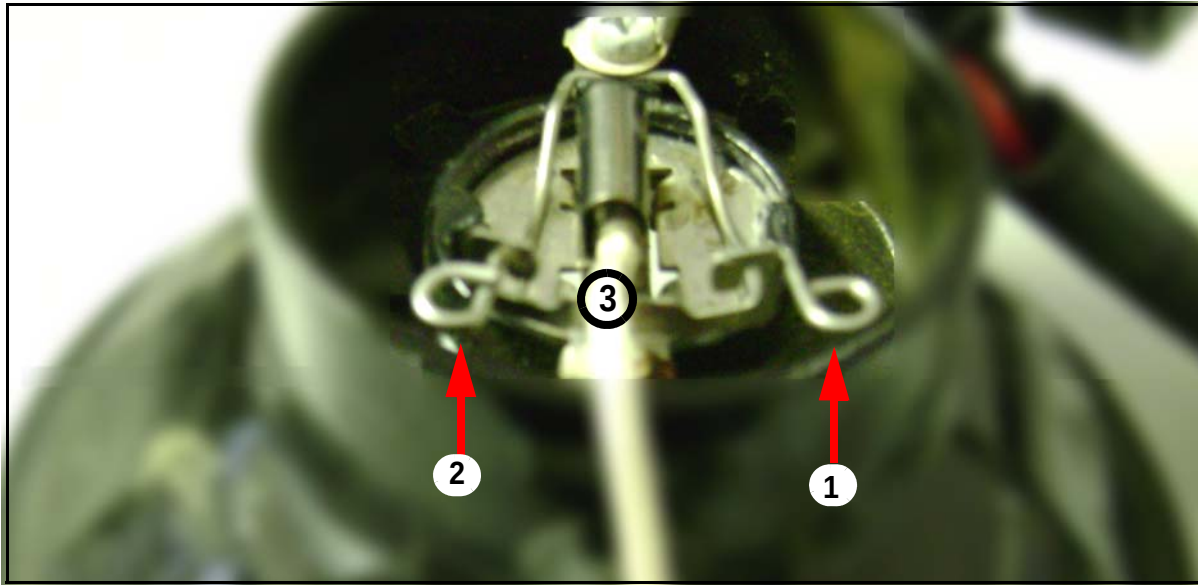

Figure 3. Fog light assembly.
11. Push to release the two (2) ends on the V-shaped wire lock spring from the hook (refer to Figure 3).
15. Orient the bulb assembly into the cavity on the back of the fog light assembly. Swivel the V-shaped wire lock spring 180 degrees over the backplate of the bulb assembly. Push to lock the two (2) ends on the V-shaped wire lock spring in the hooks (refer to Figure 3).